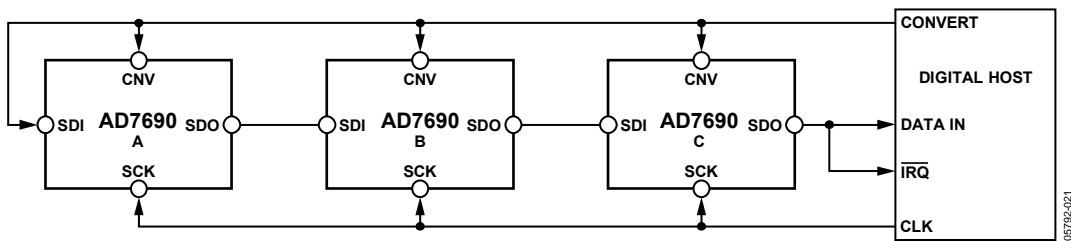
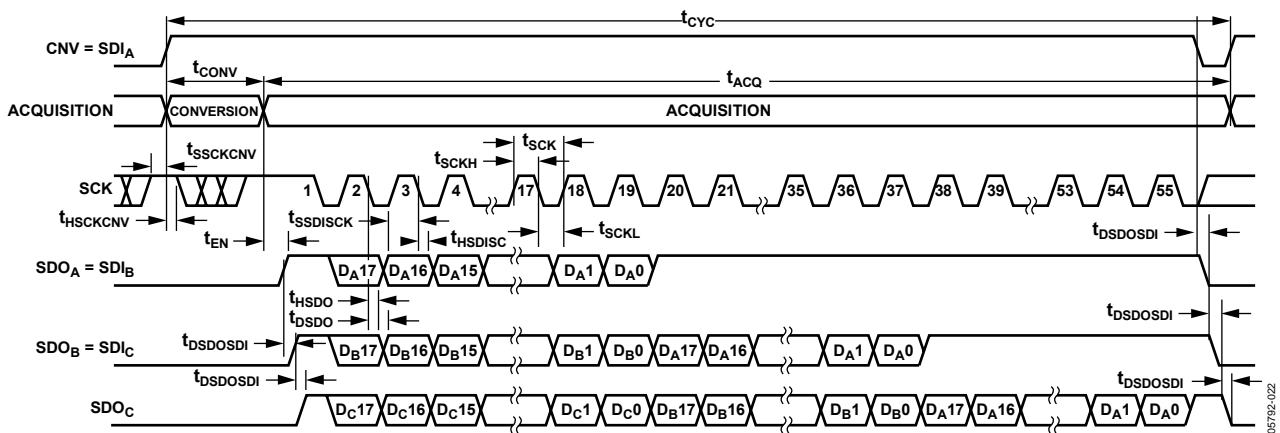

Figure 43. Chain Mode with Busy Indicator Connection Diagram
Figure 44. Chain Mode with Busy Indicator Serial Interface Timing
- In the chain mode if SCK is high during the CNV rising edge (see Figure 44).
A connection diagram example using three AD7690s is shown in Figure 43, and the corresponding timing is given in Figure 44.
subsequent data readback. When all ADCs in the chain have completed their conversions, the SDO pin of the ADC closest to the digital host (see the AD7690 ADC labeled C in Figure 43) is driven high. This transition on SDO can be used as a busy indicator to trigger the data readback controlled by the digital host. The AD7690 then enters the acquisition phase and powers down. The data bits stored in the internal shift register are clocked out, MSB first, by subsequent SCK falling edges. For each ADC, SDI feeds the input of the internal shift register and is clocked by the SCK falling edge. Each ADC in the chain outputs its data MSB first, and $18 \times N + 1$ clocks are required to readback the N ADCs. Although the rising edge can be used to capture the data, a digital host using the SCK falling edge allows a faster reading rate and consequently more AD7690s in the chain, provided the digital host has an acceptable hold time.